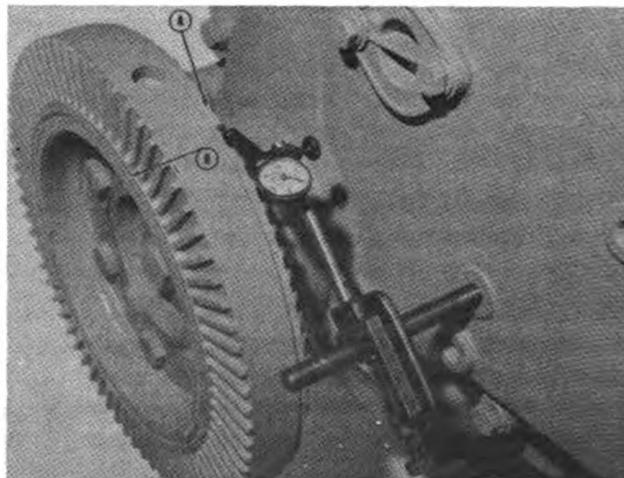

Fig. 14-47 (N114140). Measure The Movement On The Circumference And The Face Of The Vibration Damper.
- a. Install the dial indicator gauge to the gear cover as shown in Fig. 14-47. Position the tip of the indicator on point "A". Rotate the crankshaft. The total indicator reading must not exceed 0.003 inch [0.08 mm] per 1.0 inch [25.4 mm] of vibration damper diameter.
- b. Measure the movement of the face of the vibration damper. Put the tip of the indicator on point "B" (Fig. 14-47). Rotate the crankshaft. The crankshaft must be at the front or rear of the thrust clearance when you measure the movement. The total indicator reading must not exceed 0.0025 inch [0.064 mm] per 1.0 inch [25.4 mm] of the radius (as measured from the center of the vibration damper).